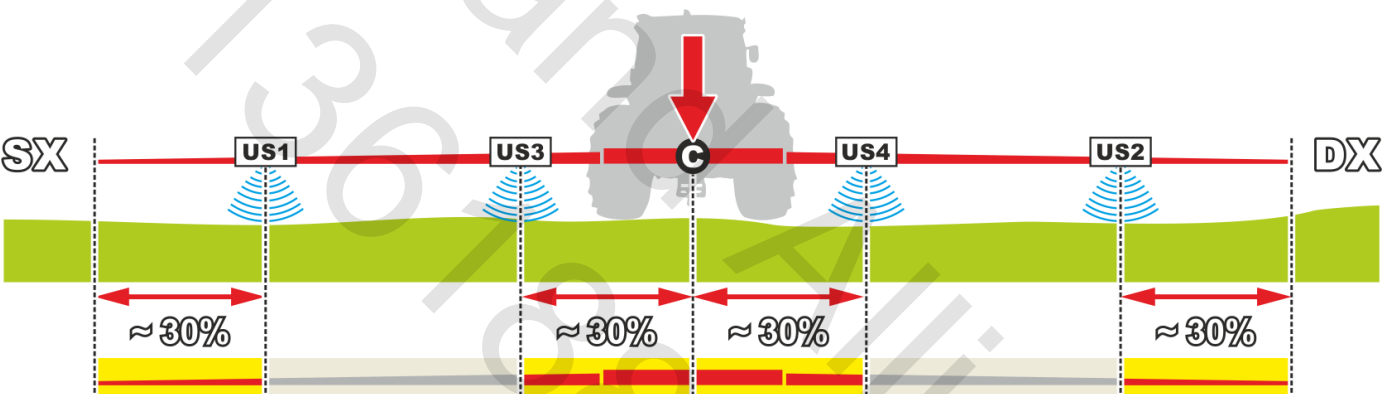

Fig. 6
- **COMPLETE SETUP** - with two pairs of sensors **US1** + **US2** and **US3** + **US4** (Fig. 6).